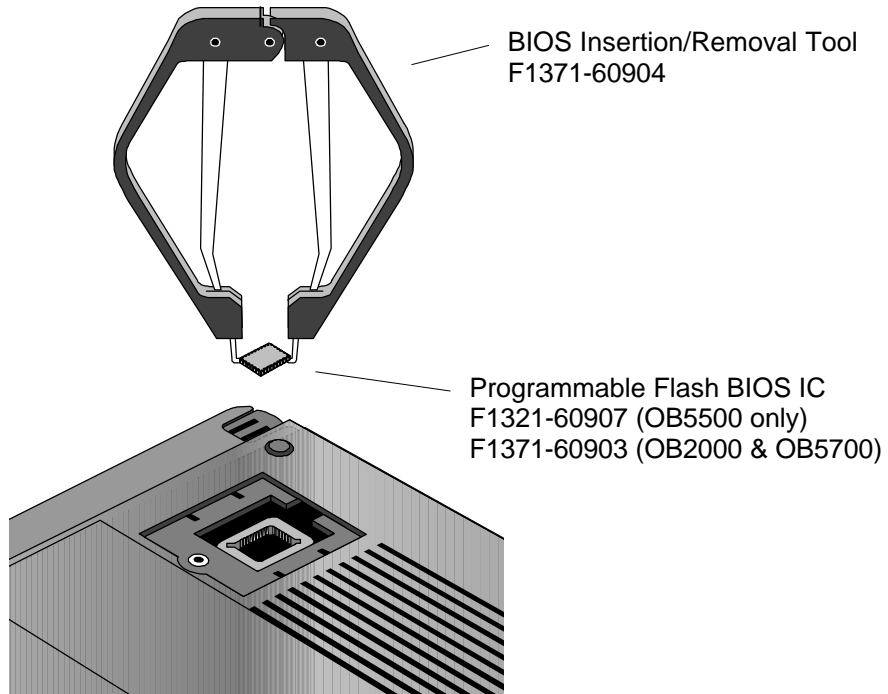

Figure 43 - Flash BIOS IC Removal
4. Use a BIOS Insertion/Removal Tool to extract the BIOS IC from the Logic PCA. See Figure 43 on page 90.